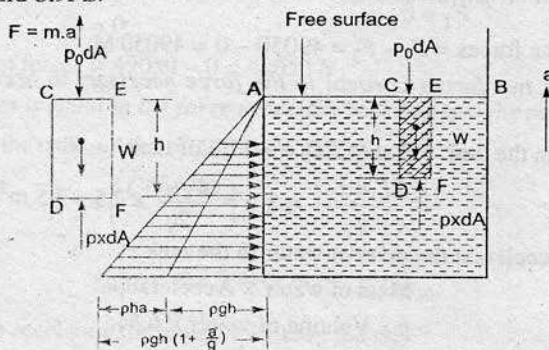

Fig. 3.49
3.8.2 Liquid Container Subjected to Constant Vertical Acceleration. Fig. 3.49 shows a tank containing a liquid and the tank is moving vertically upward with a constant acceleration. The liquid in the tank will be subjected to the same vertical acceleration. To obtain the expression for the pressure at any point in the liquid mass subjected to vertical upward acceleration, consider a vertical elementary prism of liquid *CDFE*.
The Fig. 3.49 shows the variation of pressure for the liquid mass subjected to a constant vertical upward acceleration.